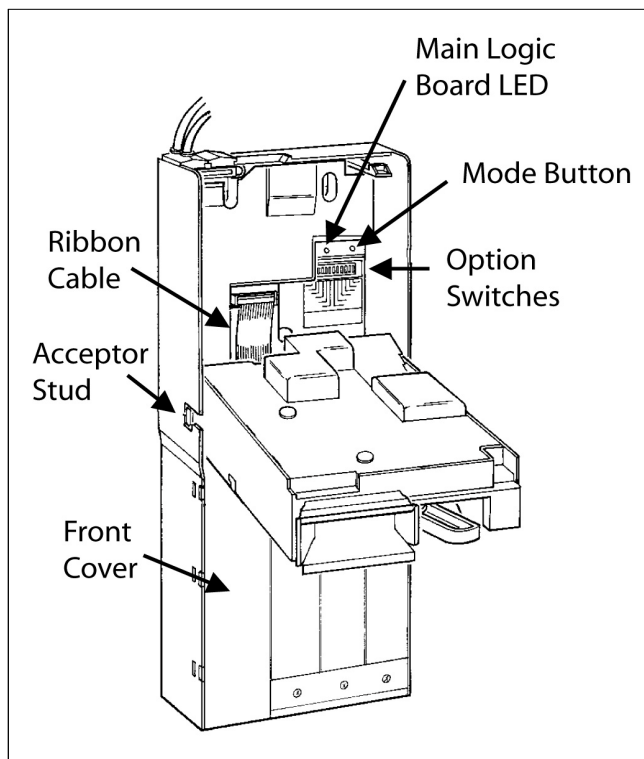

Figure 2
4. Replace the acceptor by inserting bottom acceptor studs into changer housing guides. Plug the ribbon cable into the changer (see Figure 2).
Located behind the acceptor on the middle right hand side of the changer housing are twelve switches (see Figure 2). The first eight are used to set the vend price (see “Setting The Vend Price” section of this manual).